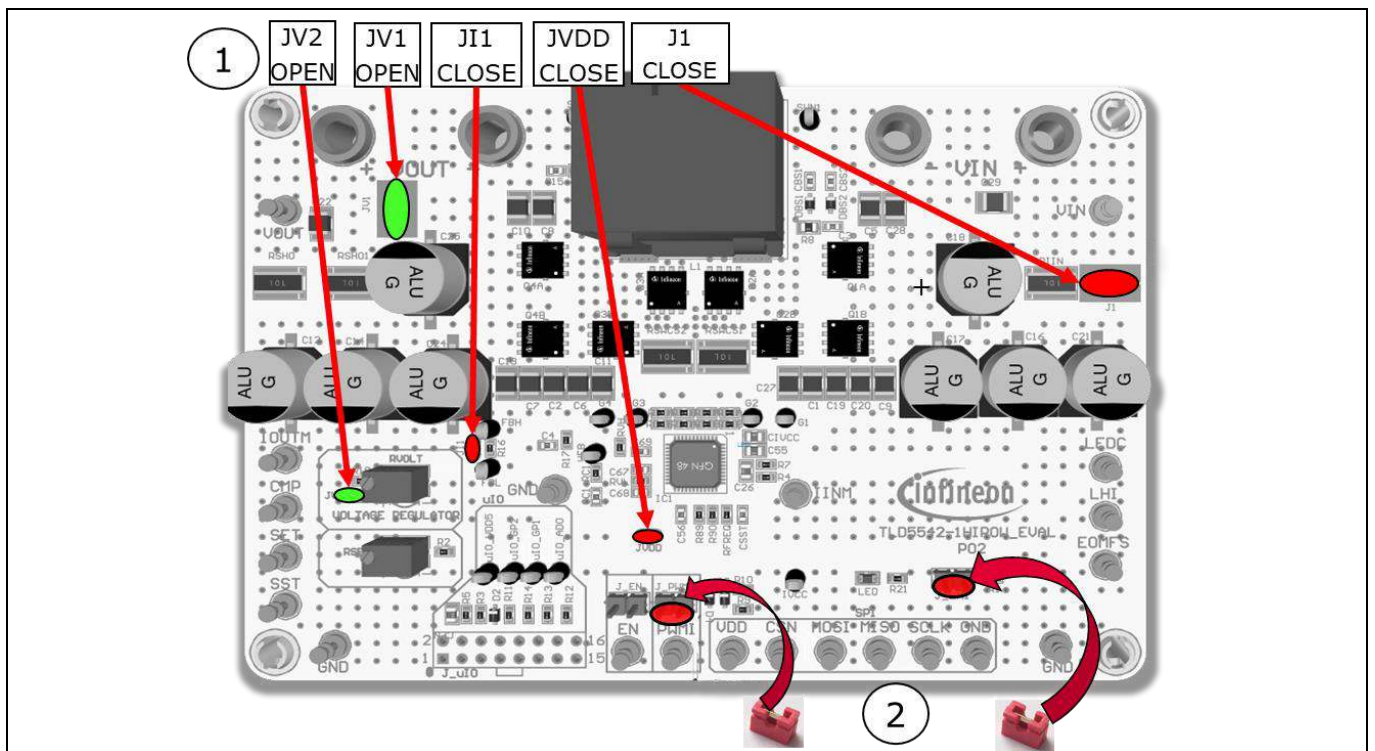

Figure 4 Jumpers to be set for current regulator mode no μ C
1. Configure solder jumper for LED driver configuration as in Figure 4